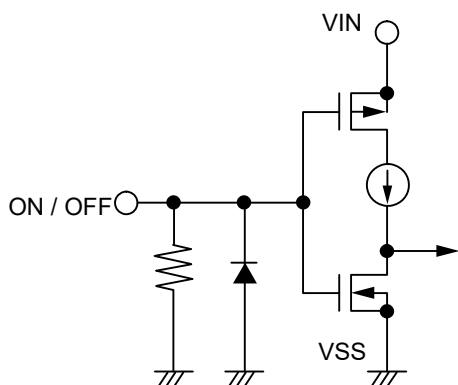

Figure 30 S-19243xxxA Series
Note that the current consumption increases when a voltage of 0.6 V to $V_{IN} - 0.3$ V is applied to the ON / OFF pin. The ON / OFF pin is configured as shown in **Figure 30** and **Figure 31**.
*2. Note that the IC's current consumption increases as much as current flows into the pull-down resistor when the ON / OFF pin is connected to the VIN pin and the S-19243xxxA Series A / C / E / G type is operating (refer to **Figure 30**).